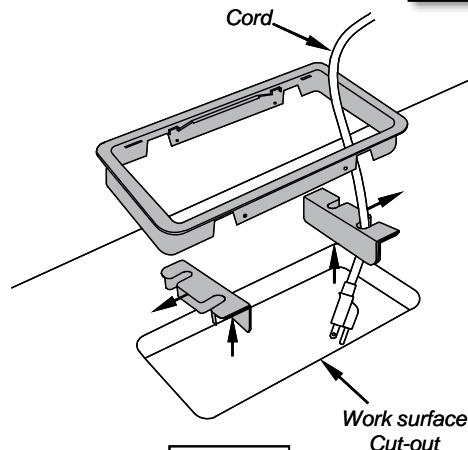

Figure 8B
- Turn the receptacles around to access the cord pass-through holes and slide back into the grommet frame around the cord(s). **Figure 8B.**